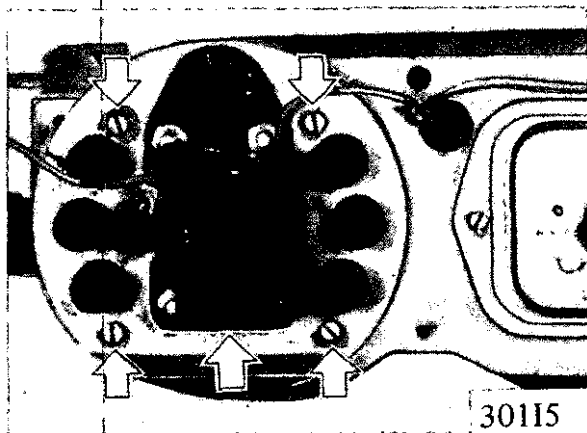

Figure 11-5 Removing Four Instrument Attaching Screws
3. Pull voltage stabilizer off printed circuit and remove four instrument attaching screws, as shown in Figure 11-5.